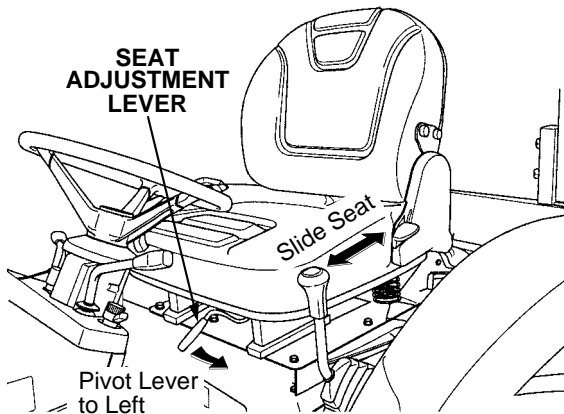

Figure 39
- To adjust the seat, pivot the seat adjustment lever to the left and hold while repositioning the seat to the desired position. See Figure 39.